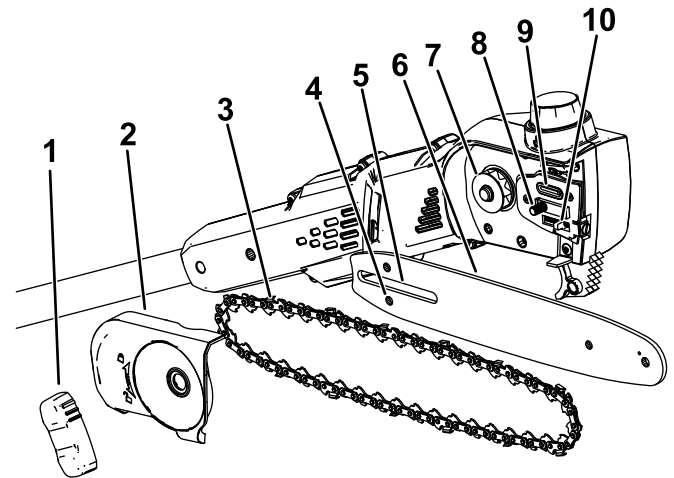

Figure 20
7. Check the oil outlet (Figure 20) for debris and clean the area if necessary.
Important: Ensure that the chain adjusting stud is inserted into the chain adjusting stud slot on the guide bar (Figure 20). You may need to rotate the chain-tensioning screw to fit the stud into the hole in the guide bar.